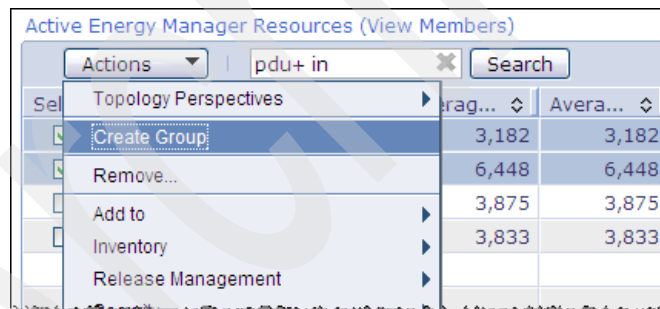

Figure 8-37 Creating the DB server zone
- To create the DB Server Zone group with PDU+ in DB Svr Rack#1 and PDU+ in DB Svr Rack#2, select **DB Svr Rack#1** and **DB Svr Rack#2**, and then click **Actions** → **Create Group**, as shown in Figure 8-37.